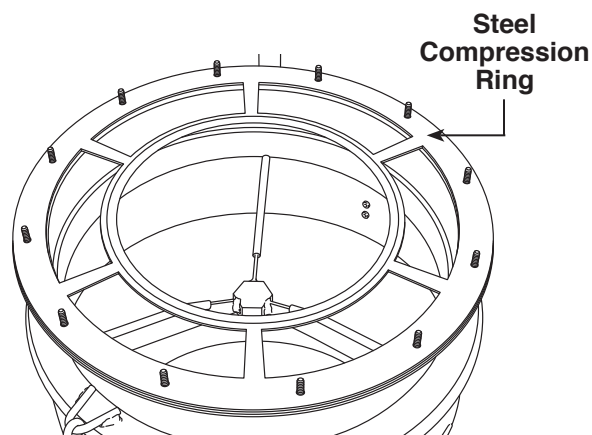

Figure 2
5. The DPF Cleaner is shipped with the small ring seal and the steel compression supporting ring installed. See Figure 2. Use the measurement taken in Step 4 to select the correct neoprene ring seal for your application.